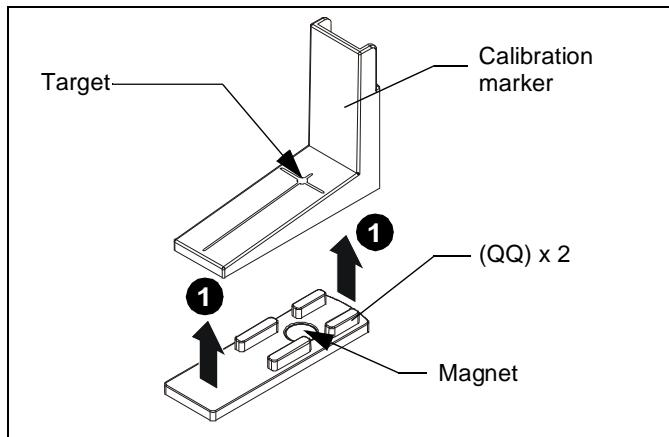

Figure 23
1. Snap calibration marker spacers (QQ) into bottom of calibration markers included with Epson projector. (See Figure 23)
NOTE: Ensure that magnet on calibration marker spacer (QQ) lines up with target on calibration marker. (See Figure 23)